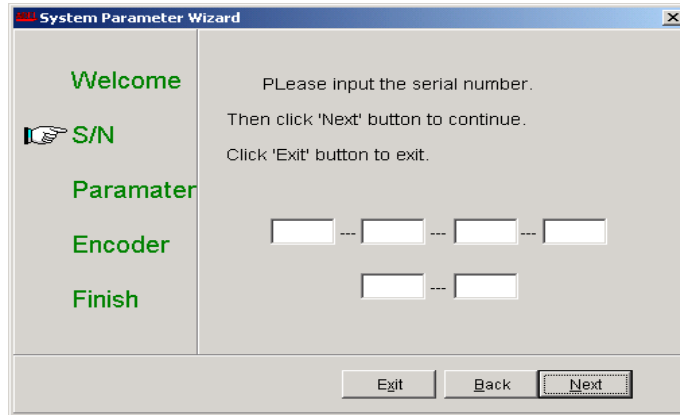
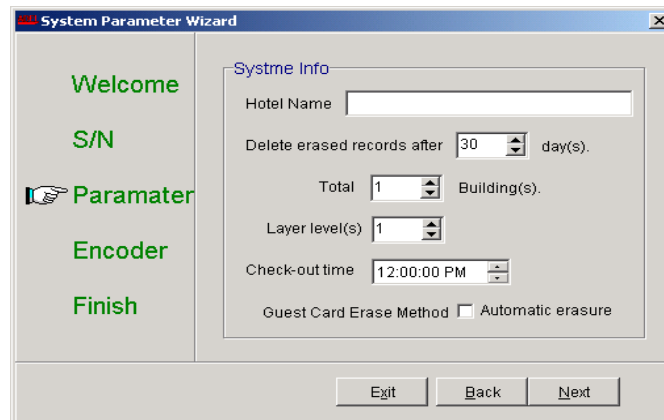

Figure 2-3
Figure 2-4
- 3) Click **Next** button, Figure 2-3 appears. Enter 28 digits serial number. Click **Next** button. Figure 2-4 appears.
- 4) Enter System Parameters. A sample is given in Figure 2-4.